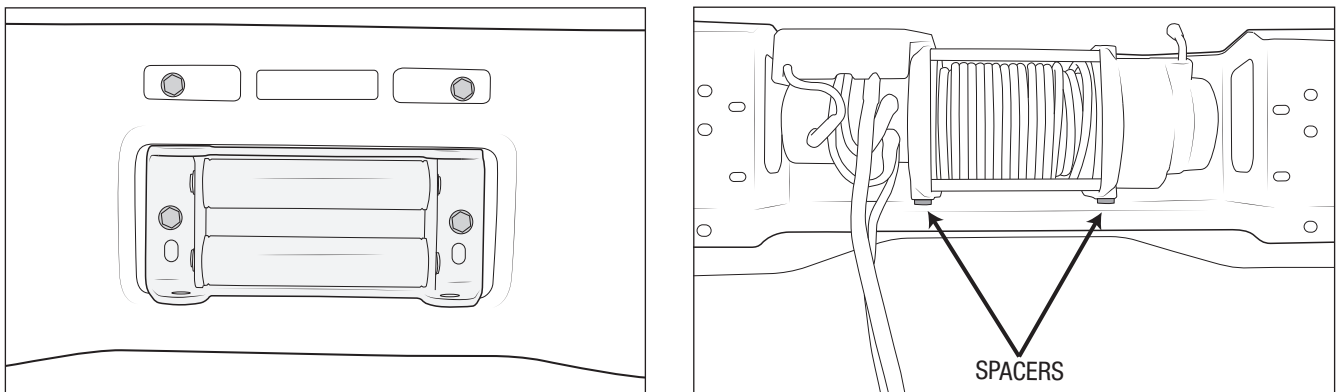

Figure 8
3. If installing a Warn 16.5 winch, install the winch fairlead using the fasteners provided with the winch. Torque as instructed by the winch manufacturer. Use the AEV provided spacers between the winch and the bumper (fig. 8). NOTE: For Warn M12000 or M15000 winches see Appendix A.